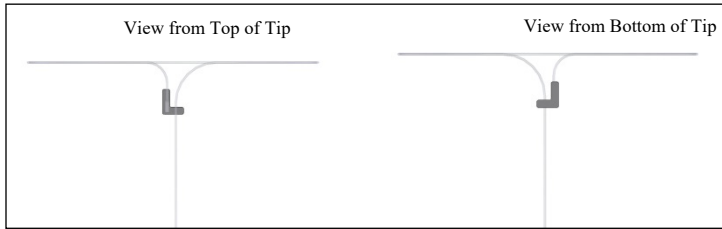

Figure 4B Fluoroscopic View of Orientation Marker on Tip
13. If using fluoroscopic guidance to advance the LARIAT RS over the target tissue, a marker on the distal tip provides a fluoroscopic reference for the tip position of the open snare. See Figure 4B